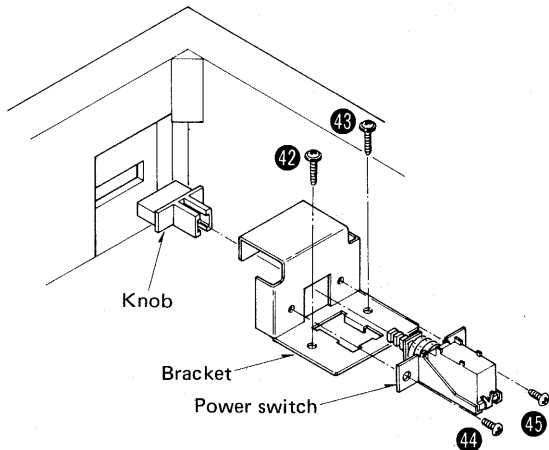

Fig. 13
2. Remove the 2 bracket setscrews (Fig. 13: 42, 43) and pull out the power switch knob.
3. Remove the 2 power switch setscrews (Fig. 13: 44, 45), and then the power switch can be removed.